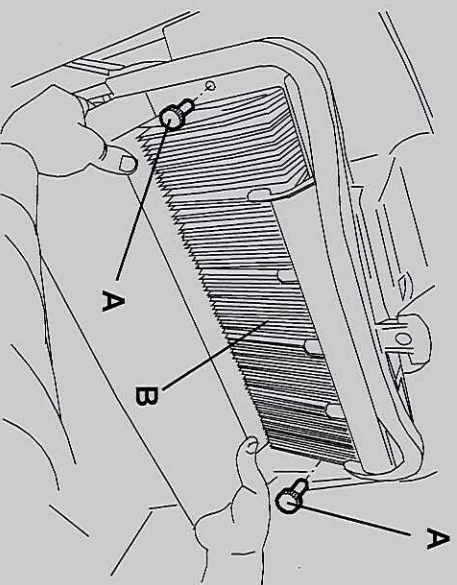
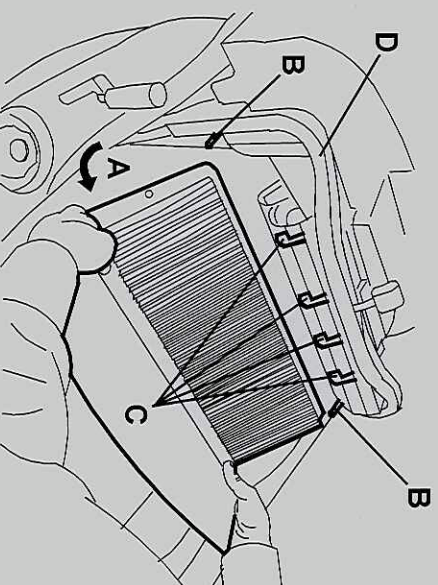
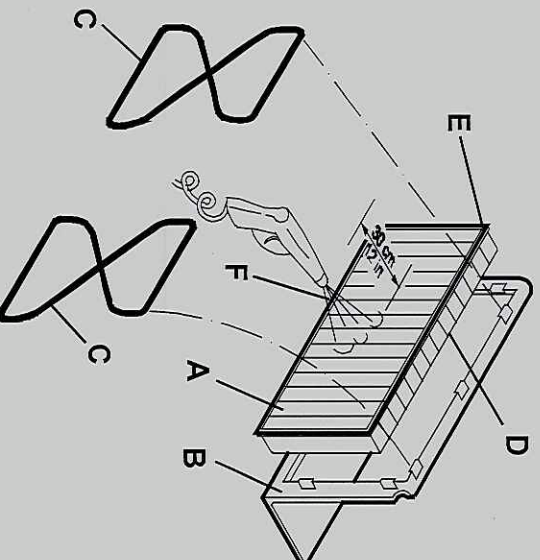

Figure 8
Figure 9
Figure 10
2. Turn the main switch (1) to "0".
3. Remove the hopper (9).
4. Loosen the knobs (A, Fig. 8).
5. Grasp the dust filter (B) as shown in the figure.
6. Remove the dust filter by turning it in the direction shown by the arrow (A, Fig. 9) to disengage it from the pins (B), then lower the filter to disengage it from the filter shaker combs (C).
7. Remove the filter (A, Fig. 10) from the frame (B) by disengaging the 2 rubber bands (C).
8. In an appropriate outdoor area, clean the filter by shaking it on a level and clean surface, tapping the side (D) opposite to the gasket (E).
9. Complete the cleaning procedure by using compressed air (F) at maximum 6 Bar, blowing only from the side of the gasket (E), at a minimum distance of 30 cm. Check the filter body for tears. If necessary, replace it. For a better cleaning, it is allowed to wash the filter with water and non-lathering detergents. This provides better quality cleaning but reduces the life of the filter, which will have to be replaced more frequently. The use of inadequate detergents can damage the filter.
10. Clean the bearing surface of the filter rubber gasket (E) and check it for integrity and sealing capabilities. If necessary, replace the filter.
11. Clean the bearing surface of the hopper gasket (D, Fig. 9) and check it for integrity and sealing capabilities. If necessary, replace it.
Assemble the filter with the gasket (E, Fig. 10) positioned as shown in the figure.